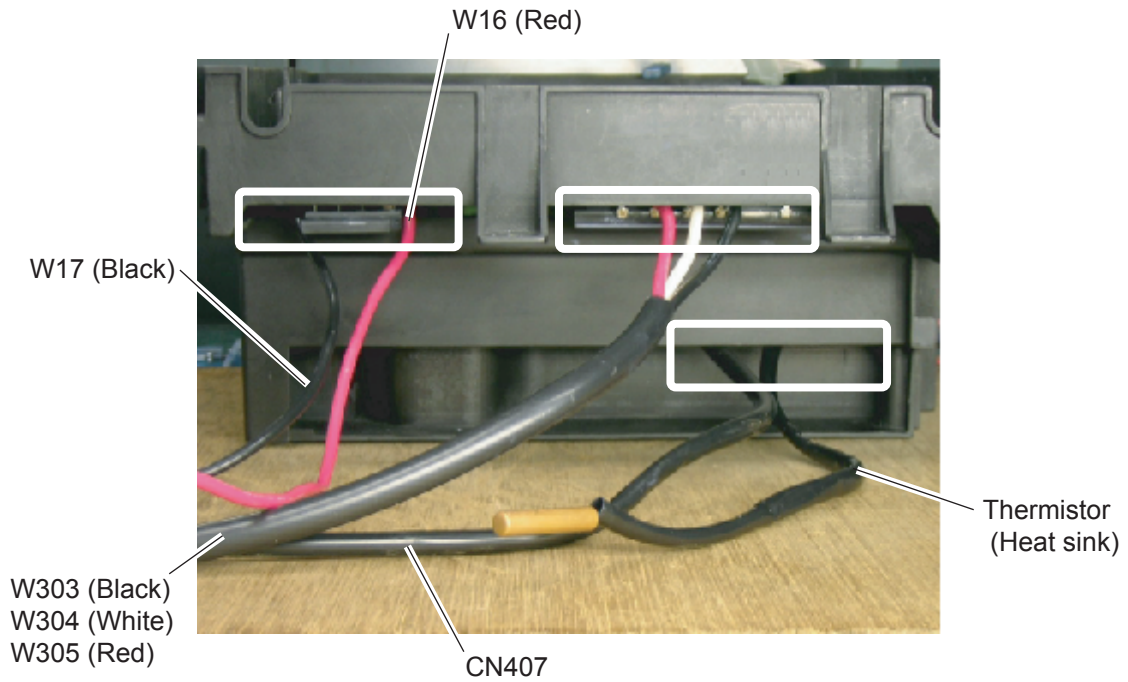

Fig. 4
- After it is temporary fix of MAIN PCB, As shown in the Fig 4 - 7, pull out the wires of MAIN PCB.
- As shown in Fig.4, pull out the wires.